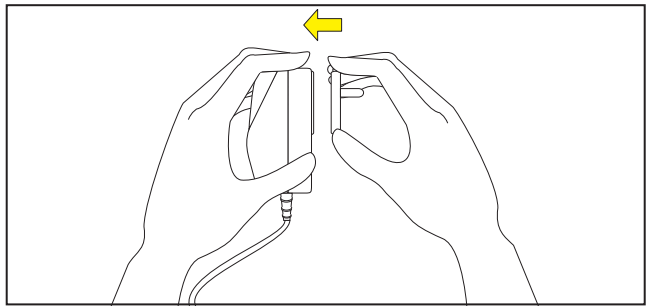

Figure 3. Insert power outlet plug adapter.
- (b) Install the proper power outlet plug adapter onto the AC adapter. See Figure 3.